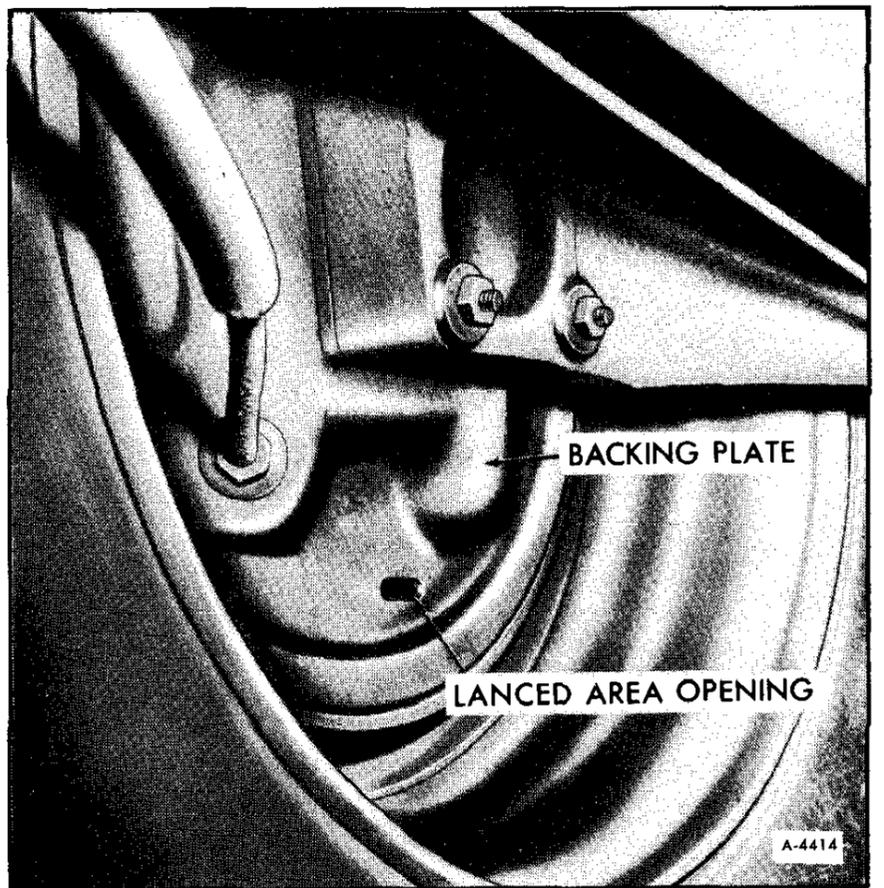

Figure 3—Lanced Area in Backing Plate
area, see figure 3). Be sure all metal is removed from the brake assembly.
6. Using a suitable punch, knock out the metal blank in backing plate (located at lanced area, see figure 3). Be sure all metal is removed from the brake assembly.
10. Be sure brake adjustment cover is installed in lanced area opening of backing plate, see figure 3.